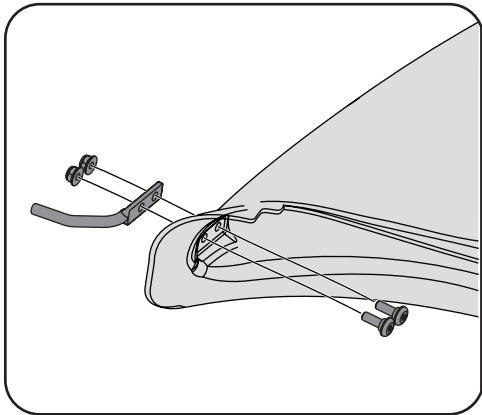

Figure 4-16
1. Install the boot rod mount (747-06043) to the boot using 2 shoulder screws (738-1225) and 2 flangelock nuts (712-04064) from hardware pack 689-00636. Ensure that the shoulder screws (738-1225) are installed on the interior of the boot. See Figure 4-16.